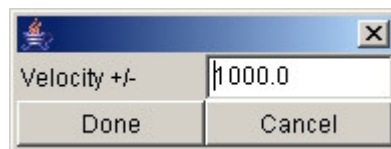

Figure 45: Increment or decrement the velocity of the chosen layer by a specific amount
- Click on 'Change Vel' in order to increment or decrement the velocity of the layer. Figure 45 shows the window that opens up when this option is chosen. To increase the velocity in the layer, enter the value by which it has to be increased. To decrease the velocity, enter the negative velocity value by which it has to be reduced